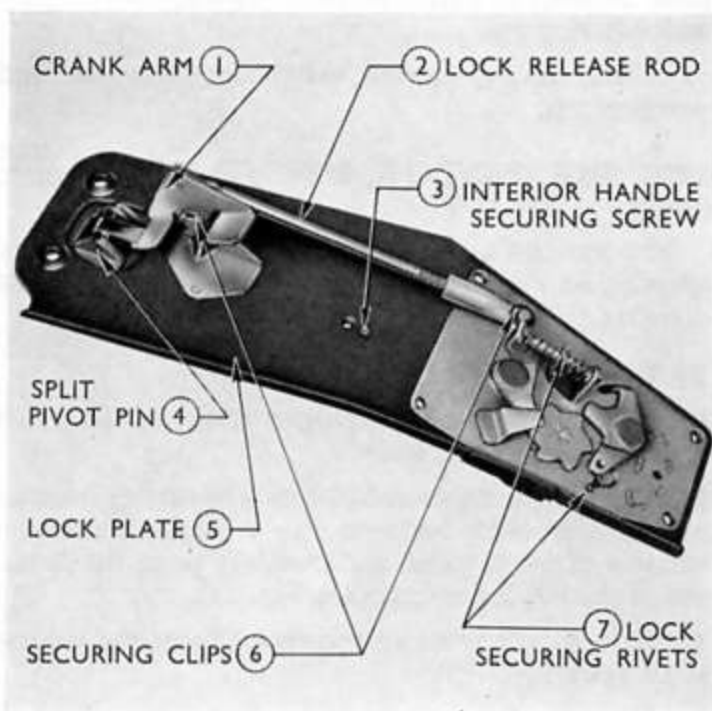

Fig. 12
2. Remove one crosshead screw and spring washer from the lower end of the door interior handle, remove the interior handle, lock and lock plate as an assembly (see Fig. 12).
1. Remove two crosshead screws and spring washers, four bolts, spring and flat washers securing the lock plate to the door (see Fig. 12).
2. Remove one crosshead screw and spring washer from the lower end of the door interior handle and remove the interior handle, lock and lock plate as an assembly (see Fig. 12).
3. Remove the clip securing the lock release crank arm to the lock plate (see Fig. 12).
4. Remove the screw from the lower end of the handle and remove the handle from the lock plate (see Fig. 12).
5. Drive out the split pivot pin securing the release lever and return spring to the door handle and withdraw the lever and spring from the handle (see Fig. 12).
2. Remove the clips securing the lock interior release rod to the lock mechanism and the crank arm and remove the rod (see Fig. 12).
3. Drill out two pop rivets securing the lock mechanism to the lock plate and remove the lock mechanism (see Fig. 12).
2. Replace the lock interior release rod on the lock mechanism and secure with a clip (see Fig. 12).